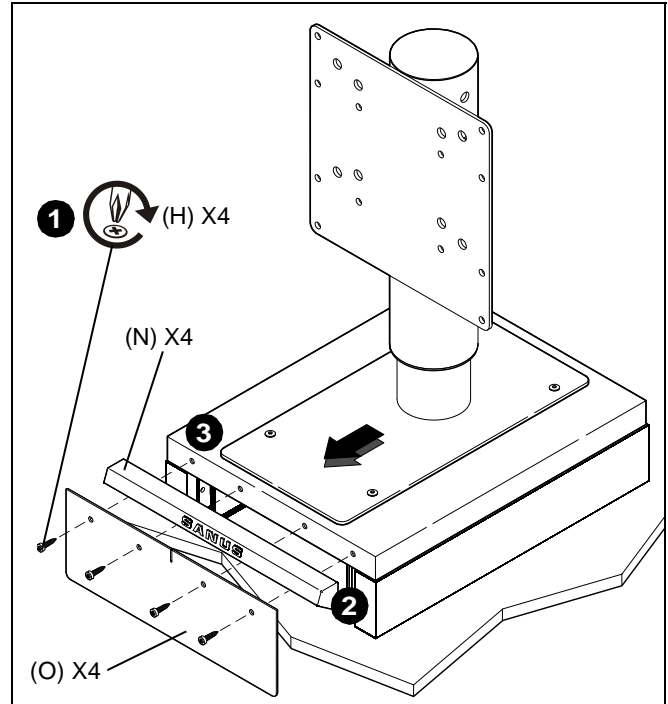

Figure 5
1. Align slots in handle (n) with four holes in front of base. (See Figure 5)
3. Secure handle (n) and front cover (o) to base using four wood screws (h). (See Figure 5)